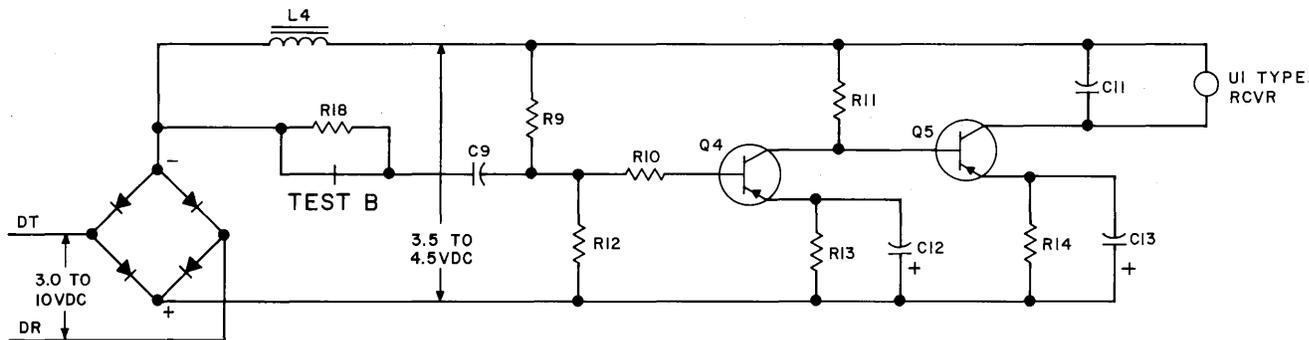

Fig. 6—Answer-Back Amplifier Circuit
**3.05 Answer-Back Amplifier:** Refer to Fig. 6 for simplified schematic of the answer-back amplifier. The answer-back amplifier is a class C amplifier that accepts the acknowledgment or answer-back signals from the telephone line and amplifies these signals before presenting them to the customer. These signals are either 1017, 1785, or 2025 Hz. Due to the dc level in the polarity guard, these signals are passed with little attenuation. Divider network R9 and R12 provides base bias current. The input impedance of the amplifier varies because Q4 saturates on strong input signal. Isolation resistor R10 reduces the effect of these